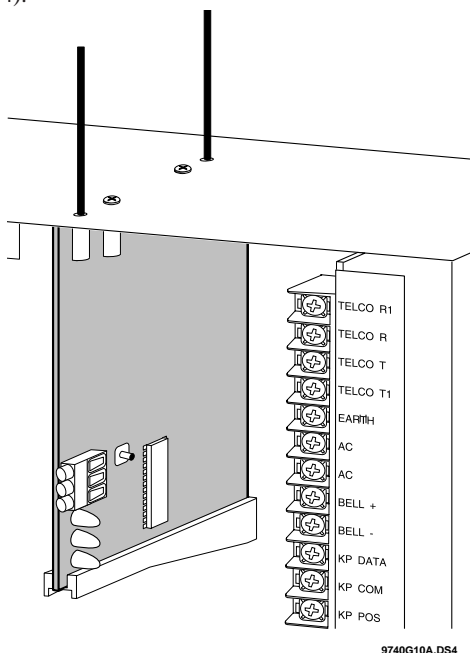

Figure 4. Inserting the Antennas
- 5) Insert the antennas through the holes on top of the cabinet and into the module antenna sockets (see Figure 4).